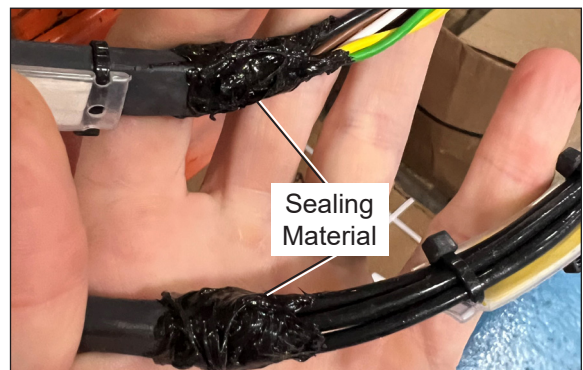

**Figure 4 — Top Hat Style Slip Ring**
- If the slip ring is a top hat style, proceed to step 5 (refer to Figure 4).